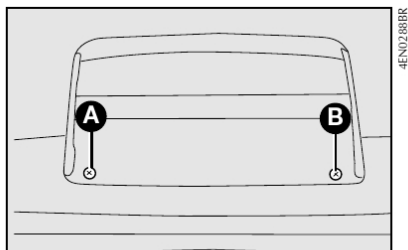

fig. 36
1) com a tampa traseira aberta, retirar os parafusos **A-fig. 36** e remover o brake-light;